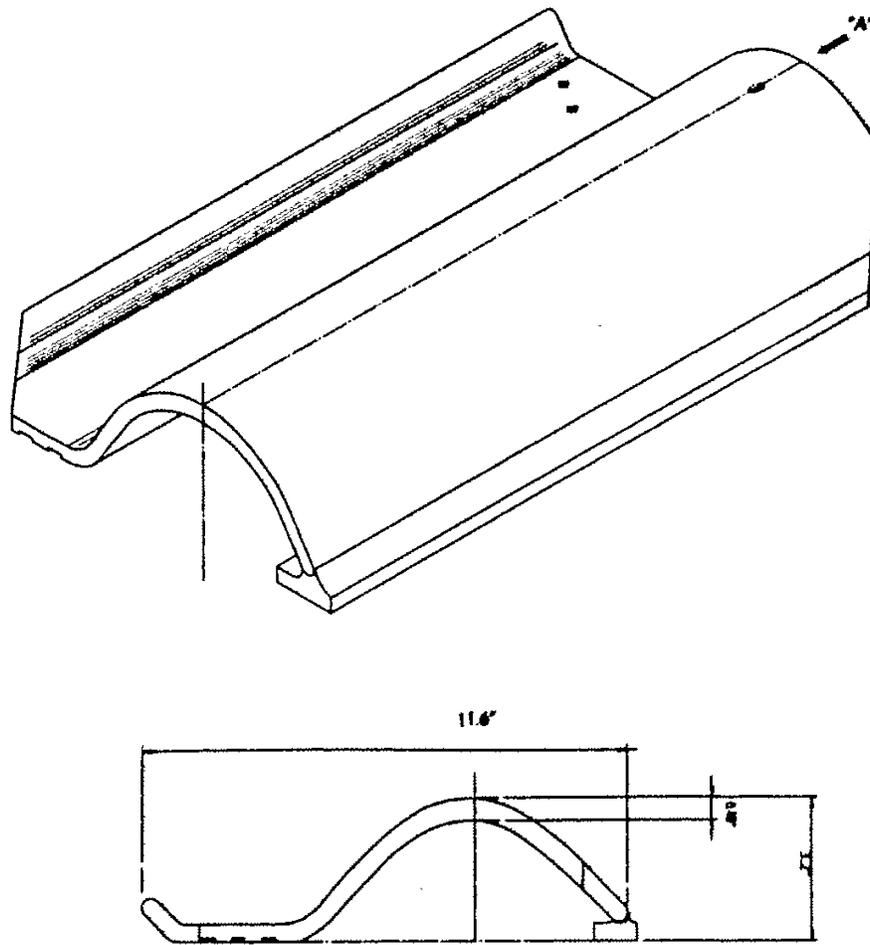

Figure 1
**Roof Tile Designations, Profile Classifications, and Dimensions:** Table 1 specifies the roof tile designations, profile classifications, and dimensions for the S-Tile roof tiles that apply to this product evaluation report. A picture of the S-Tile roof tile is shown in Figure 1.